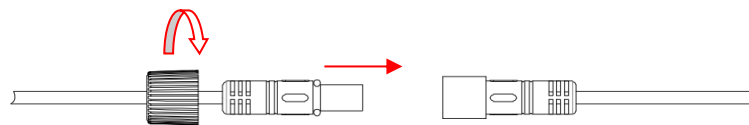
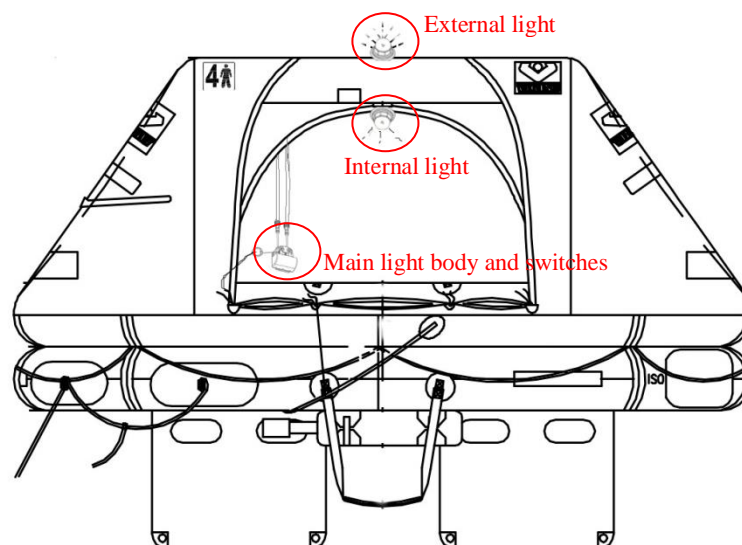

Figure3-4
Figure3-5
- 3.2.7 After external light ,internal light and main light body all securely mounted, connect the external light and internal light to main light body by re-connecting the wire connector as Figure3-4. Then the whole installation is completed, the complete view of inflated liferaft with activated light shown as Figure3-5.